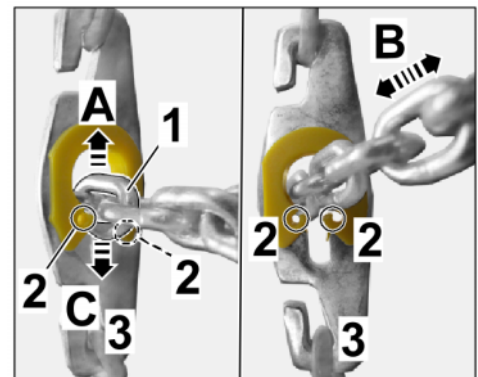

Figure 9
2.2.3 Guide chain link of the tensioning chain out of the lock in the slot on the locking plate (⇒ *Figure 9-Arrow-*).